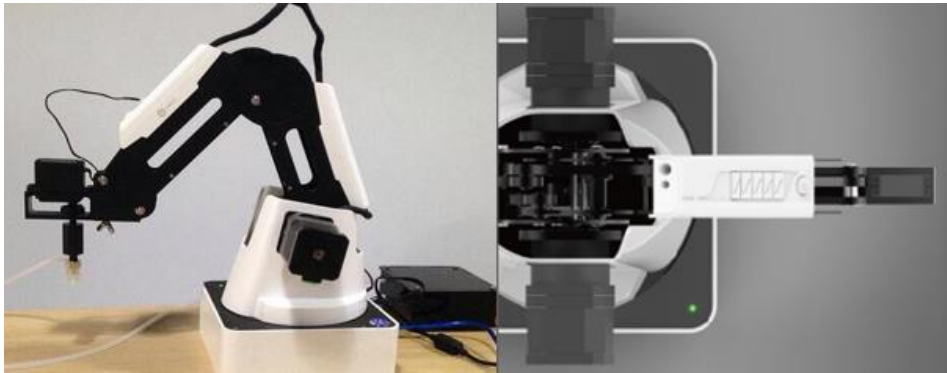

Figure 1.1 The Forearm and Rear Arm position
- Please make the Dobot Magician in the workspace with a 45° angle between the Forearm and Rear Arm (as shown in Figure 1.1) before starting up. If the LED indicator turns red after starting up, it indicates that the Dobot Magician is at a limited position. Please make the Dobot Magician in the workspace.